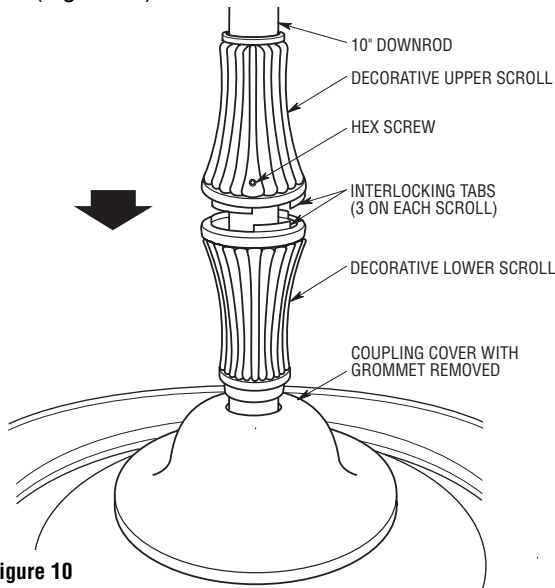

Figure 10
- 17. **10" Downrod Installation:** Remove the grommet from the coupling cover, then slide the coupling cover on the downrod until it rests on the motor housing. Be sure that the coupling cover is oriented correctly (Figure 10).
- 18. Slide the decorative lower scroll onto the 10" downrod, positioning the lower lip of the scroll into the hole of the coupling cover (Figure 10).
- 19. Slide the decorative upper scroll onto the 10" downrod, positioning the three interlocking tabs of the decorative upper scroll into the interlocking tabs of the decorative lower scroll (Figure 10).
- 20. Tighten the decorative upper scroll to the 10" downrod using the supplied 2mm hex wrench (Figure 10).